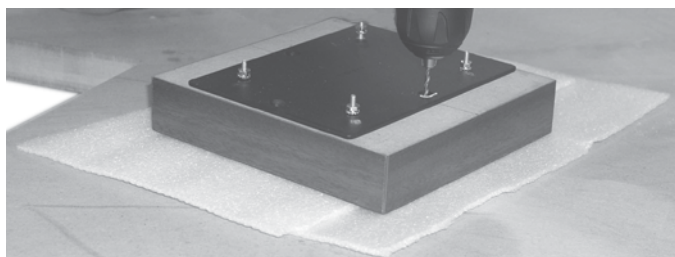

Figure 2-9 — Drilling pilot holes
4. Firmly hold the top plate in position and drill pilot holes, each $\frac{3}{32}$ " in diameter by $\frac{1}{4}$ " deep, at each of the top plate's four screw holes (figure 2-9).